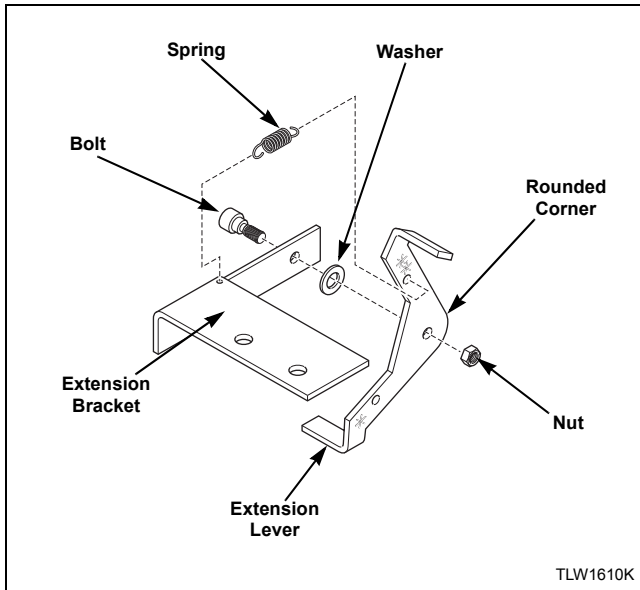

Figure 22
3. Install extension lever with rounded corner facing away from extension bracket using bolt, washer and nut. Refer to *Figure 22*.
4. Install spring to extension bracket with hook facing down. Install other end of spring to extension lever with hook facing left while standing in front of unit. Refer to *Figure 22*.